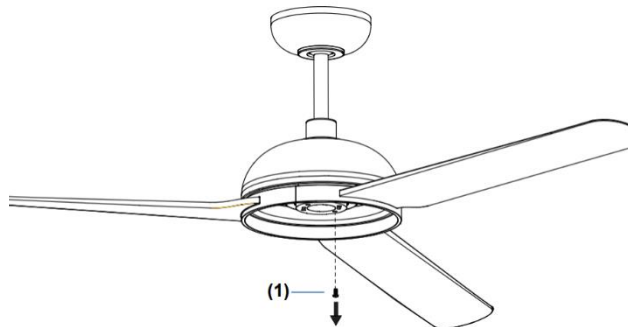

Fig. 6
INSTALLATION OF LIGHT KIT (Fig. 6)
1. Loosen the screw (1) from the fan bracket. (Fig. 6)